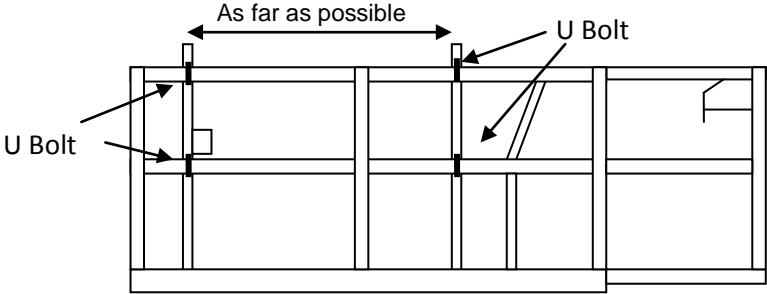

Figure 1.2 Sheet Handler attachment installation – Deck extended
- 4. Lift Attachment should be secured to the side of scissor lift with given U bolts to be used in the main deck area only as per figure 1.2 & 1.3